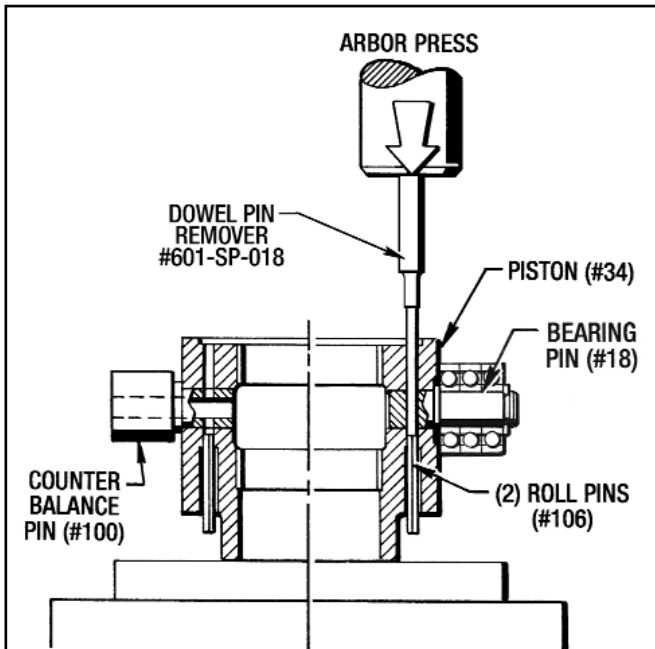

Figure 6.6 - Removing Dowel Pins (#106)
1. Using the Dowel Pin Remover #601-SP-018 press the (2) Roll Pins (#106) down in the Piston (#34) as shown in Figure 6.6.